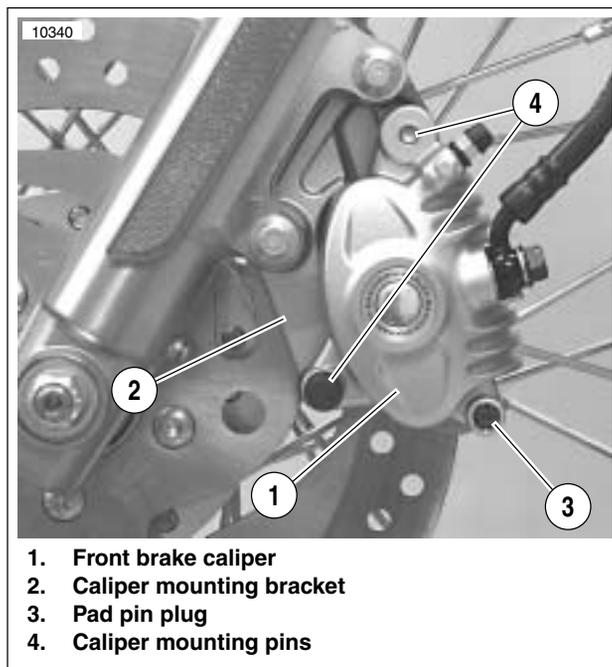

Figure 1-23. Front Caliper Assembly
- See Figure 1-23. Remove pad pin plug (3).
12. See Figure 1-23. Install pad pin plug (3). Tighten to 18-25 **in-lbs** (2.0-2.9 Nm).